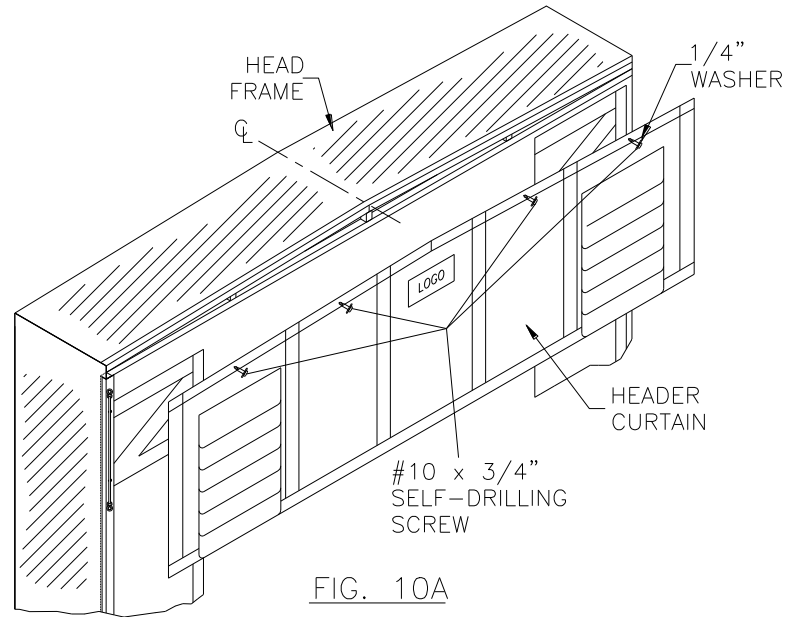
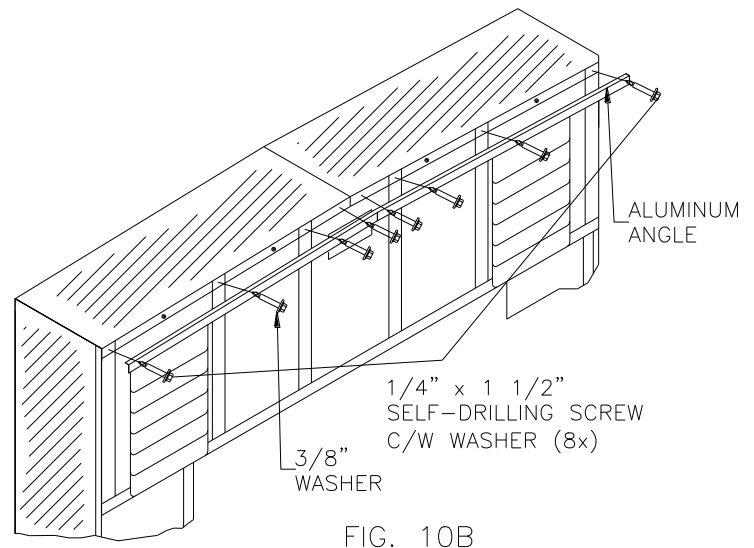

FIG. 10A
FIG. 10B
- **Match top center of Header Curtain with top center of Head Frame** (Figure 10a).
- * Secure Header Curtain between stays with four (4) evenly spaced #10" self-drilling screws and 1/4" washers.
- b. **Re-attach Aluminum Angle** to front edge of Head Frame (Figure 10b).